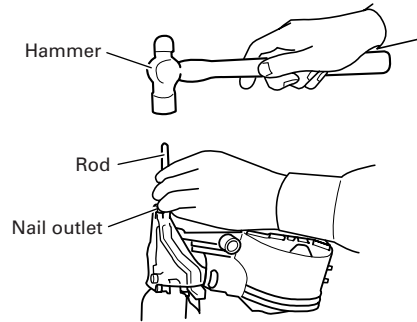

Fig. 14
- (1) Remove the nail roll from the magazine, open the nail guide, insert a rod into the nail outlet and tap the rod with a hammer. (Fig. 14)